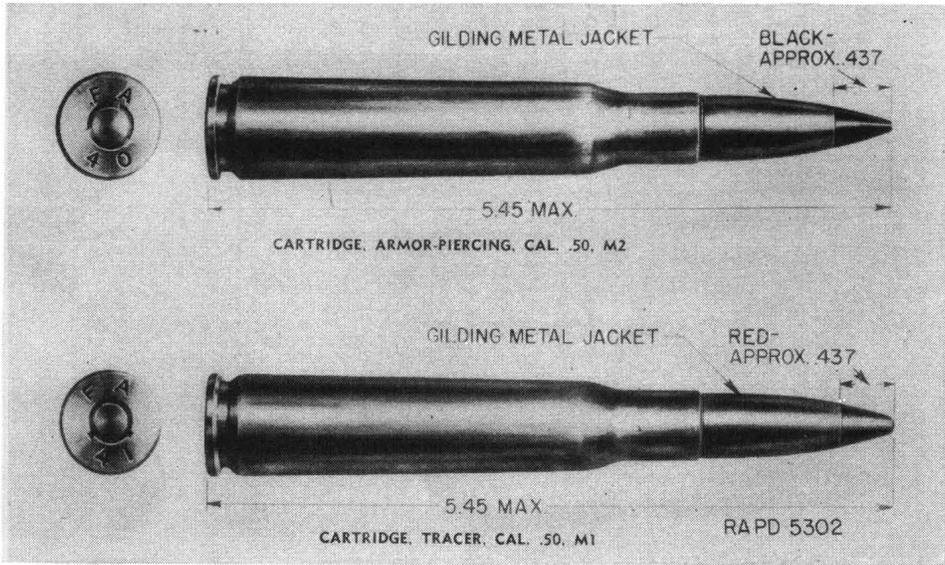

FIGURE 11.—Ammunition for Browning machine gun, caliber .50, M2, aircraft.
- (1) Ball, for use against personnel and light matériel targets.
- (2) Armor piercing, for use against armored aircraft, armored vehicles, concrete shelters, and similar bullet-resisting targets.
- (3) Tracer, for observation of fire.
- (4) Incendiary, for incendiary purposes.
*b.* When removed from their original packing containers, cartridges may be identified, except as to ammunition lot number and grade, by physical characteristics as described below and illustrated in figures 11 and 12. Care should be taken not to confuse the original markings with any subsequent markings made with lithographic marking ink, which is used for an entirely different purpose. (See par. 29*c*.)